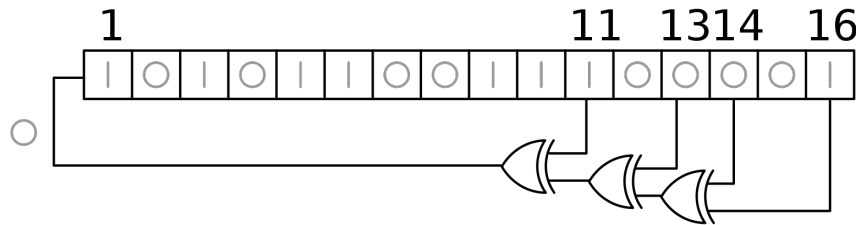

Figure 1: An 16-bit linear-feedback shift register (LFSR) [1]
First, determine two arbitrary registers (e.g., 40H and 41H) to form a 16-bit linear-feedback shift register (see Figure 1). Then, using this 16-bit register structure, you will generate 8-bit (1 byte) random numbers as described next.
3. Follow the operations in Figure 1. That is, XOR the 16th bit and 14th bit, then XOR the output with 13th bit, and then XOR the output with 11th bit. i.e., $((16 \text{ XOR } 14) \text{ XOR } 13) \text{ XOR } 11$. Store that output somewhere.